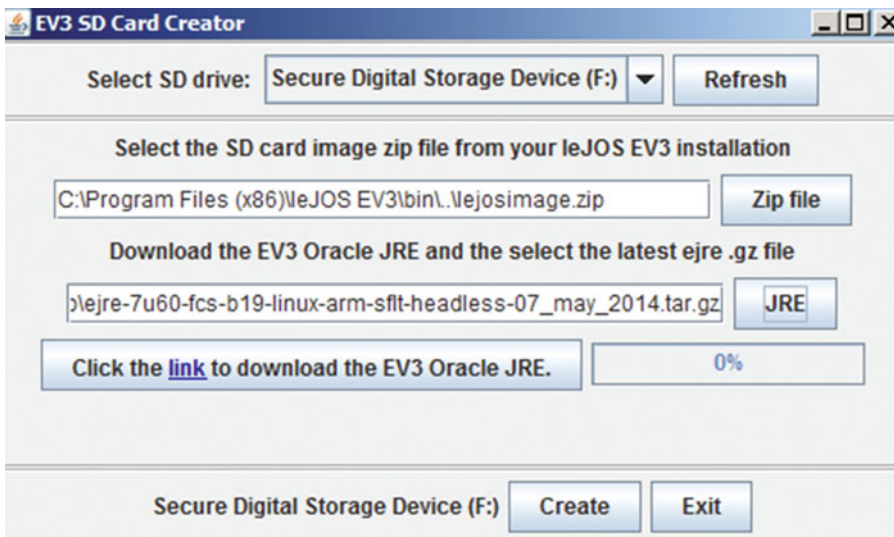

Figure 1-16. EV3 SD Card creator
9. Make sure that you have your SD card ready, and then click *Finish*. After that, a *EV3SDCard* utility program will start, as shown in Figure 1-16.